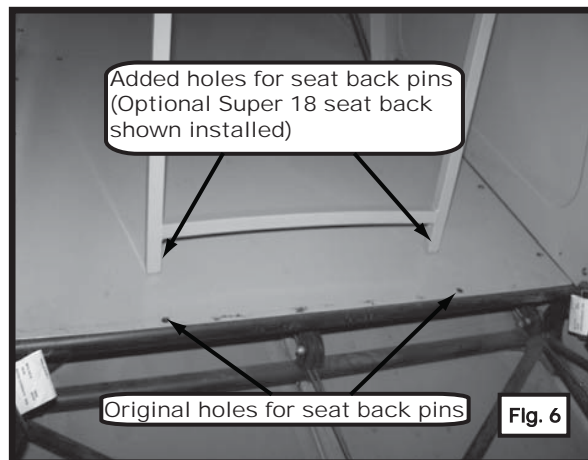

Fig. 6
4. Drill the baggage compartment floor to match the holes in the new rear seat fittings. The baggage compartment floor may now be re-installed. (See Fig. 6)